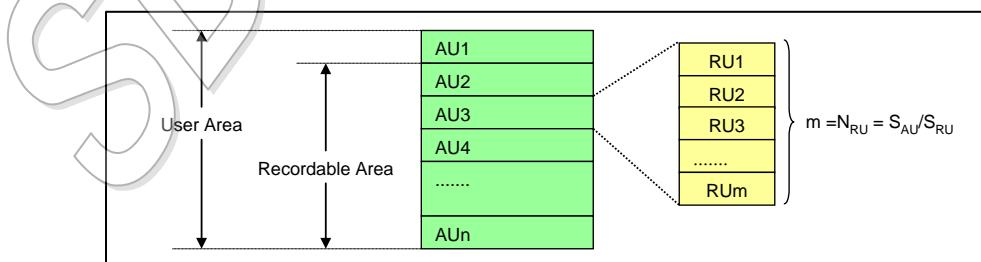

Figure 4-47: Definition of Allocation Unit (AU)
4.13.1.1 Allocation Unit (AU)
The User Area is divided into units called "Allocation Unit (AU)" (Refer to Figure 4-47). AU is physical boundary in User Area of a card and is not defined by the file system boundary. Each card has its own fixed **AU Size (S_{AU})** and the maximum AU Size is defined depending on the card's capacity. The host should manage data areas with the unit of AU. If the first AUs in the card contain file system information then they should not be used for real time recording. An AV application should start recording from the first complete AU, to which only user data can be recorded. Note that this specification does not apply to the Protected Area.
4.13.1.2 Recording Unit (RU)
Each AU is divided into units called "**Recording Unit (RU)**" (Refer to Figure 4-47). The unit of **RU Size** (S_{RU}) is 16KByte. The RU Size is a multiple of 16KByte and shall not span across an AU boundary.